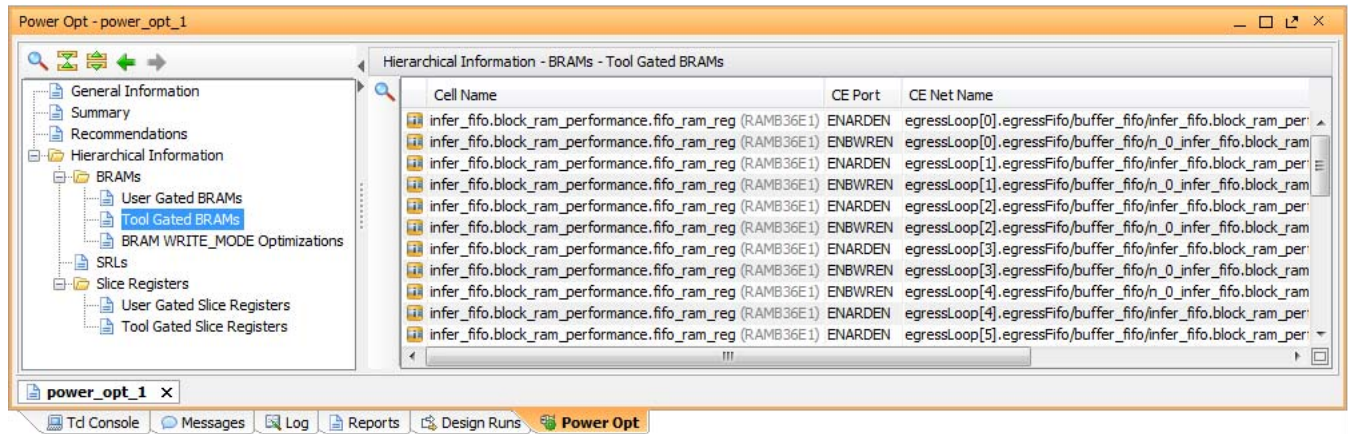

Figure 4-17: Power Optimization Report - Hierarchical Information
- **Hierarchical Information:** Details of the BRAMs, SRLs, and Slice Registers for which Vivado has performed power optimization. The view in Figure 4-17 contains a list of the BRAM cells that were optimized during implementation (**Tool Gated BRAMs**).